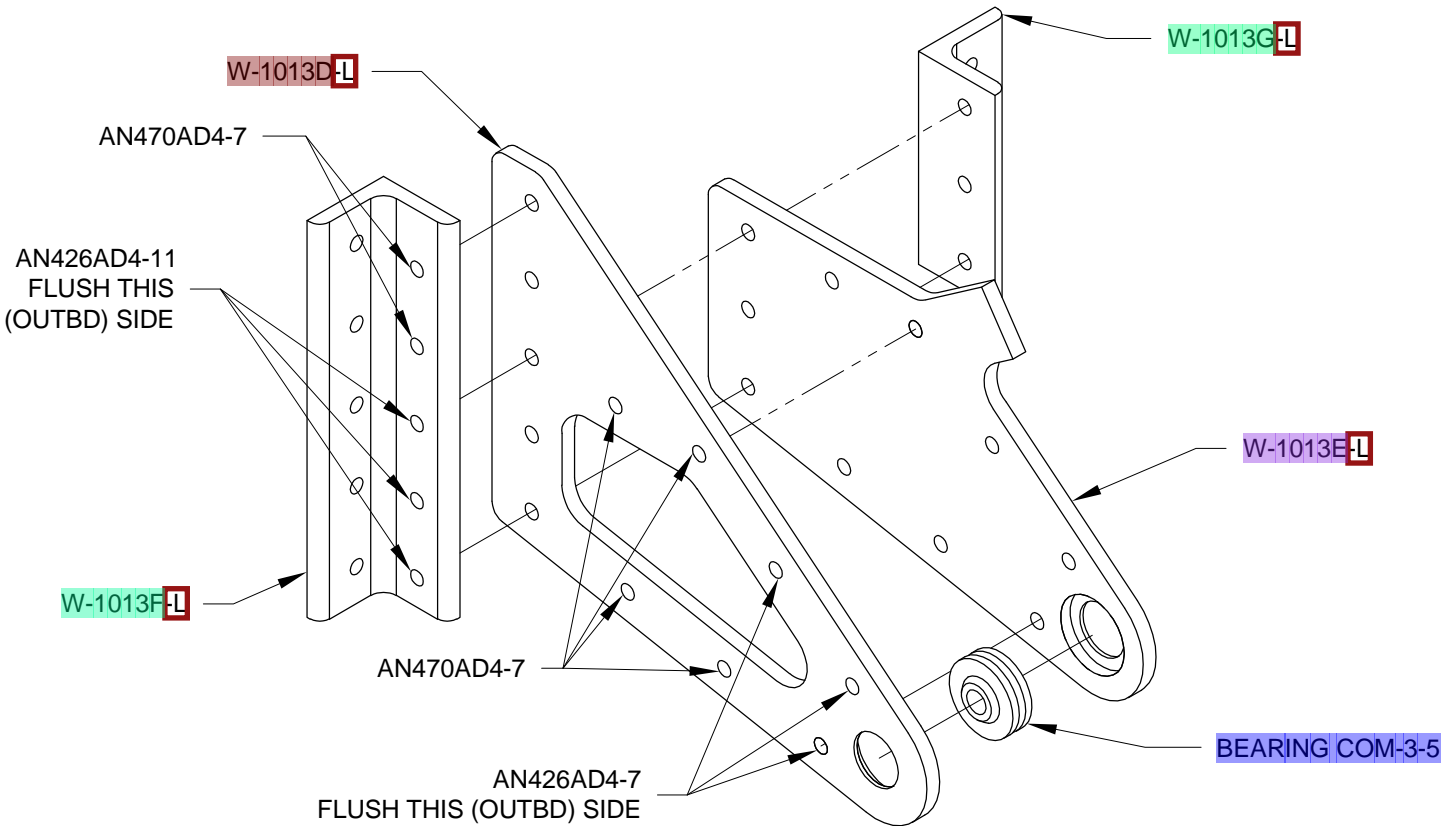

FIGURE 1: W-1013-L INBOARD AILERON BRACKET ASSEMBLY
Step 4: Cleco the Left and Right Aileron Hinge Bracket assemblies back together and rivet them as called out in Figure 1. Set the rivets in a random pattern to inhibit warping.